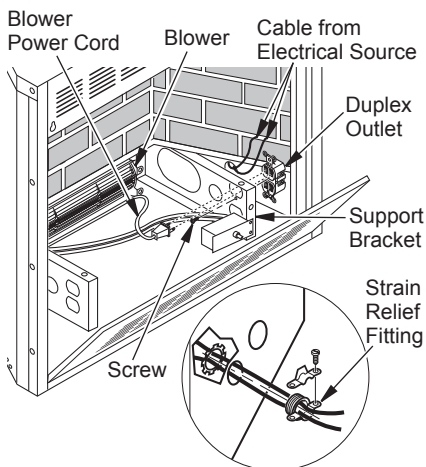

Figure 15 - Connecting Duplex Outlet
2. If using blower, install duplex outlet to the right support bracket in the bottom of firebox (see Figure 15). See *Accessories*, page 34. If not using blower, go to step 7.
3. Route wires from electrical box through smallest hole in outer casing using strain relief fitting provided (see Figure 15).